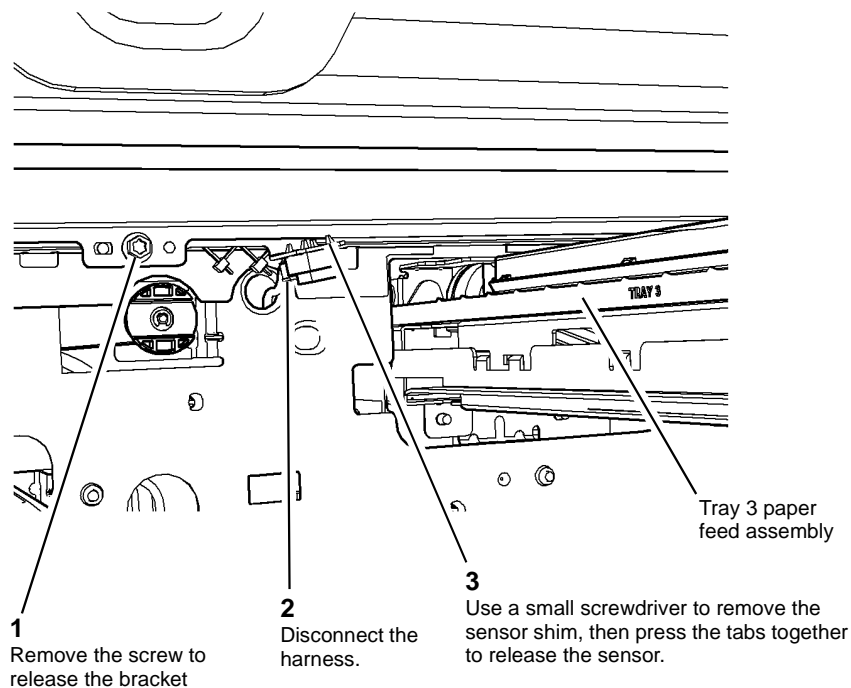

Figure 1 Tray 3 feed sensor removal
2. Remove tray 3 exit sensor, Figure 1.